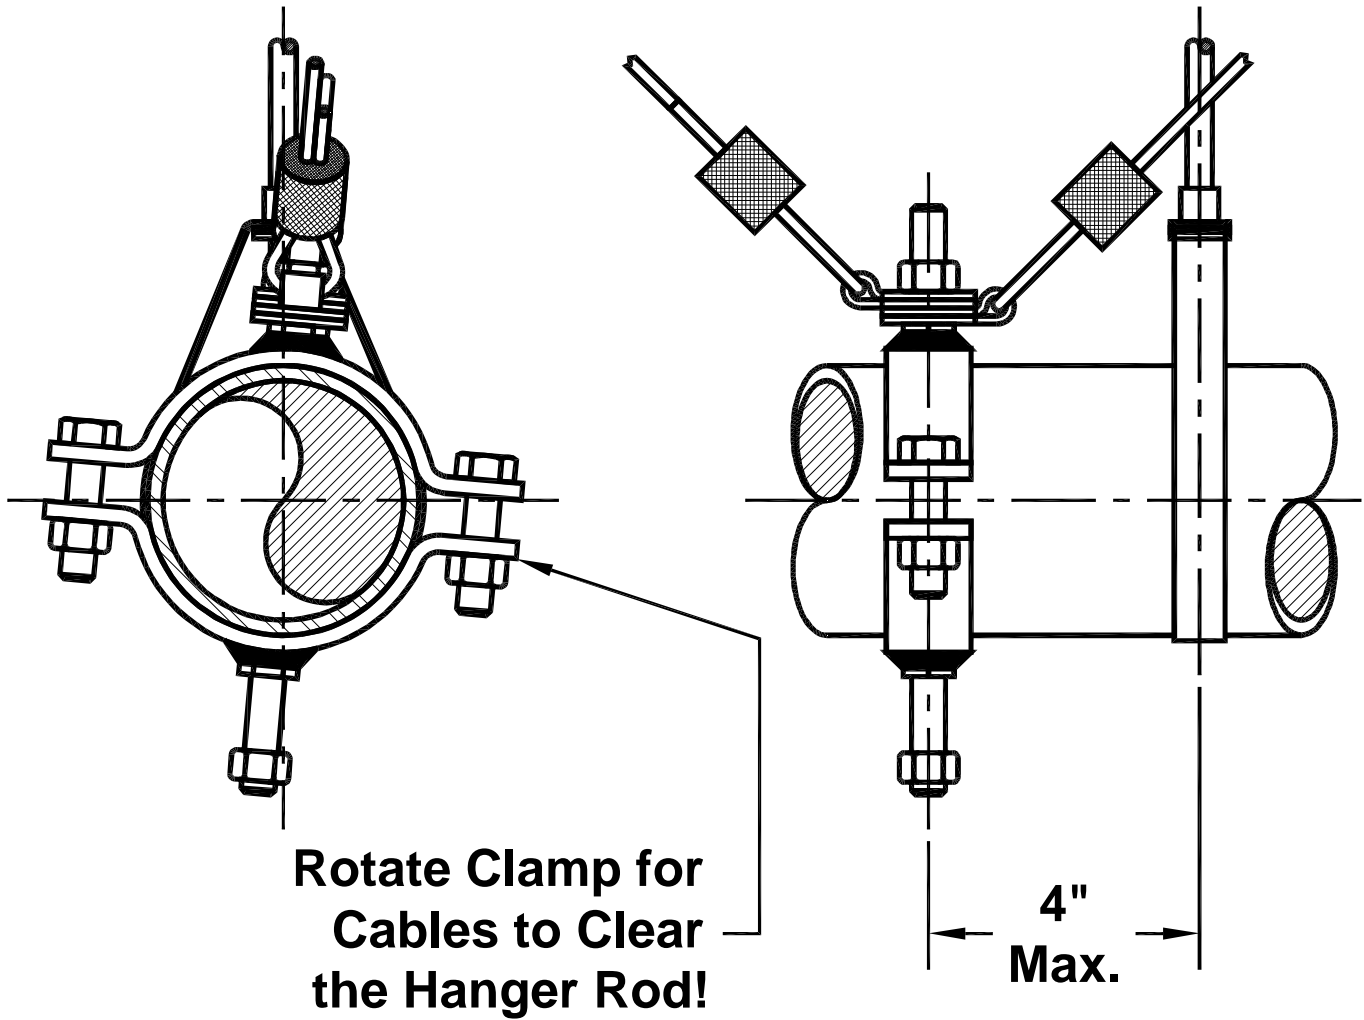

Figure I6-9; KSUA Brackets Attached to a KFPC Clamp (May be Used for Fire Protection Piping) – Longitudinal (L) Restraints
NFPA-13 Section 9.3.5.11.1 requires that all seismic restraints for all feed and cross mains be attached directly to the pipe. Seismic restraints are not to be attached to the clevis hangers for fire protection piping unless the clevis hangers are specifically listed for this type of application. These types of connections may be made using the KSUA-2 bracket and the Kinetics model KFPC Clamp. Figure I6-8 shows the KSUA-2 bracket and KFPC clamp used for a transverse (T) restraint, Figure I6-9 shows a longitudinal (L) restraint, and Figure I6-10 shows a combination transverse and longitudinal (TL) restraint.